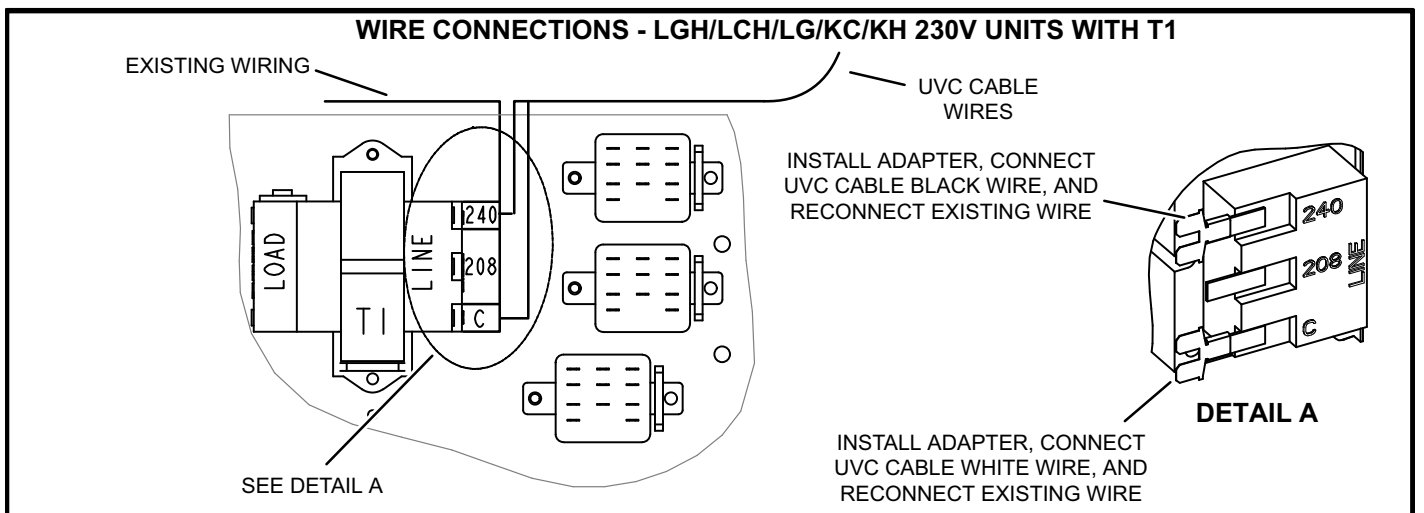

FIGURE 5
- Figure 5 - 230V LGH/LCH/KG/KC/KH with T1